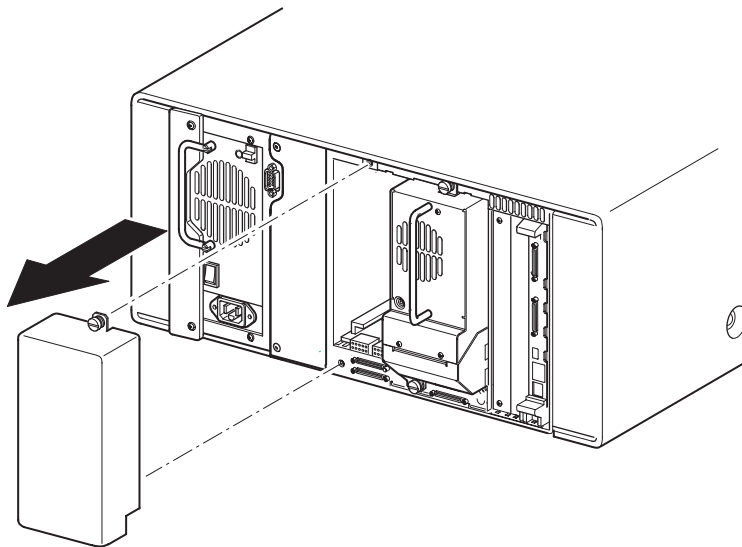

Figure D-1. Removing a tape drive mounting bay blank panel
2. Remove the blank panel that covers the appropriate tape drive mounting bay (see Figure D-1). Save the blank panel for future use.